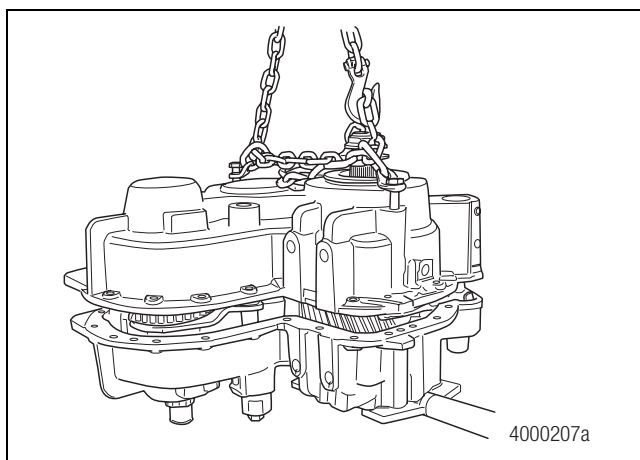

Figure 6.5
12. Use a suitable lifting device to install the rear cover and output shaft as an assembly over the front case. Figure 6.5. Guide the cover over the shift fork and push rod as the cover is being set into place over the case.